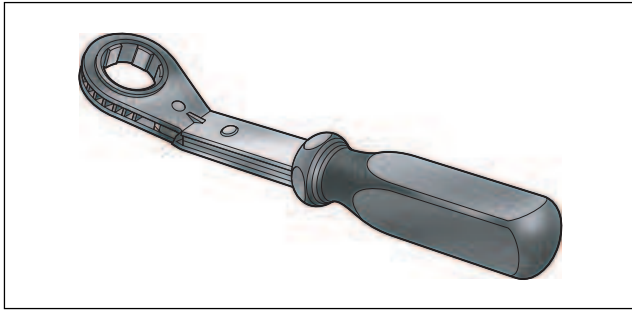

Figure 3-23. Engine Rotation Wrench (Part No. HD-47257)
- c. With engine mounted in engine stand - Obtain the ENGINE ROTATION WRENCH (HD-47257). See Figure 3-23. Install tool on sprocket shaft and rotate in a counterclockwise direction until the base circle is found. See step 6(d) to find the base circle.